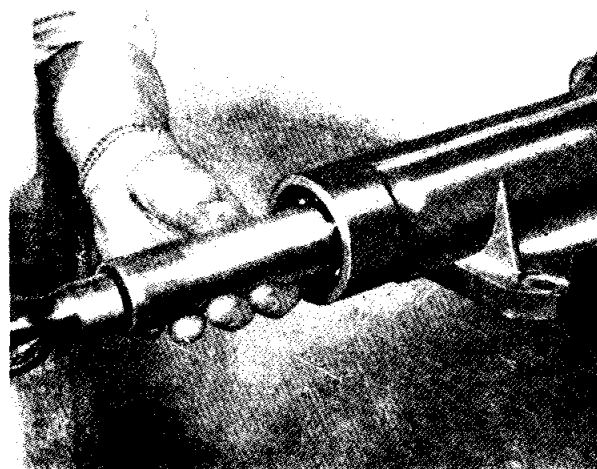

Fig. 25 Fitting Extension Ball Bearing and Thrust Washer with Churchill Tool No. 20S. 87.
- (q) Install thrust washer and ball race into gearbox extension with suitable tool as shown in Fig. 25.